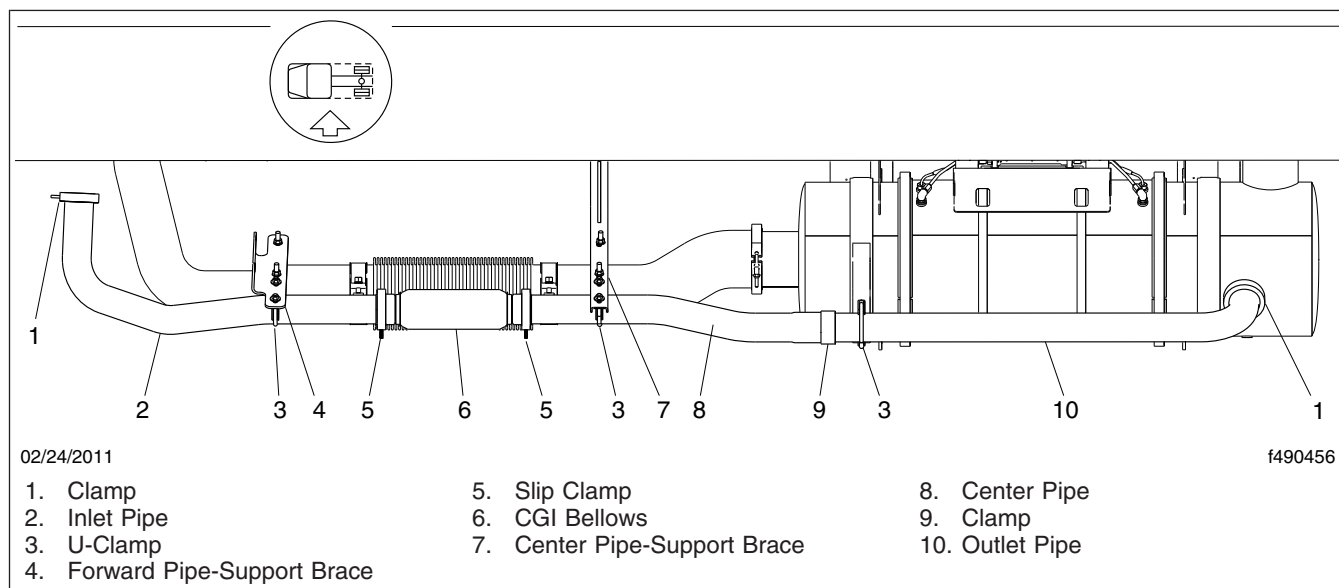

Fig. 5, CAT EPA07 Exhaust Installation with CGI Bellows
3. On vehicles with CAT engines, inspect the CGI bellows and piping for evidence of damage or leakage. See Fig. 5. If the bellows is damaged or leaking, replace it. See 49-02 for the replacement procedure.
See **Fig. 5**.